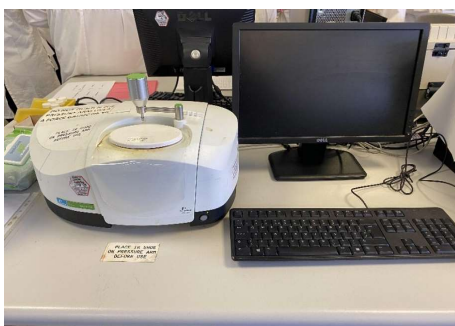

Figure 1: Perkin Elmer FTIR instrument set up
Fourier-transform Infrared Spectroscopy (Figure 1) is an analytical technique that can be used for identification of unknown materials that can be present at crime scenes or can be a source of environmental contamination. It can be used to analyse samples both qualitatively and quantitatively. IR spectra of compounds are often very characteristic and contain information about the functional groups that are present within the sample. When FTIR is used in conjunction with other analytical methods it can be used to determine the structure of any unknown sample (1).